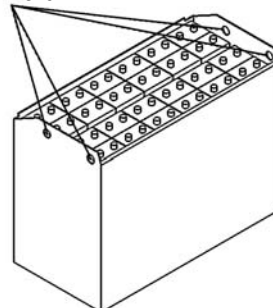

Figure 2-45
(4) Hoisting for Battery Box See Figure 2-45